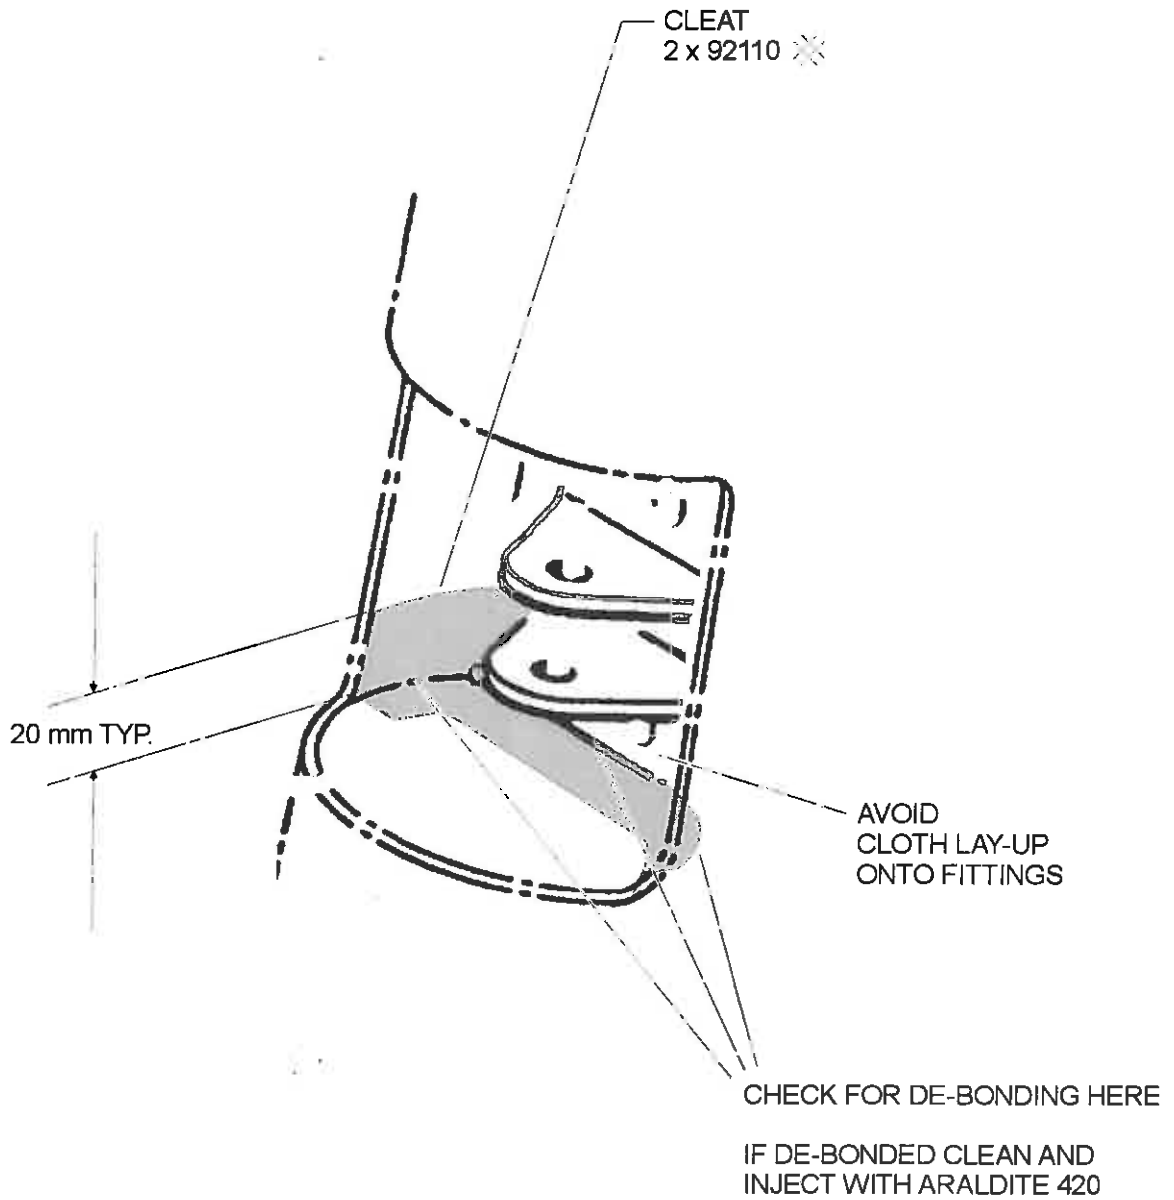

Figure 2 Rudder Top Hinge
5. Inspect the upper rudder hinge lower closing rib bond, both to the rudder skin and spar, for signs of bond failure, ref Figure 2. If a debond is found, use a suitable feeler gauge to establish extent of failure.
9. Refer to Figure 2 and prepare area for laminating. Laminate 2 layers 92110 ✱ cloth over area shown, allow to cure. Laminate in accordance with T67 GRP Repair Manual.